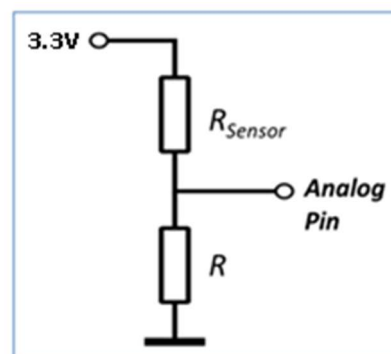

Figure 5: One FSR sensor circuit
- Step 3. As shown in the previous lab, create a voltage divider using the FSR and a 3.3 KOhm resistor (R) according to Fig 5.